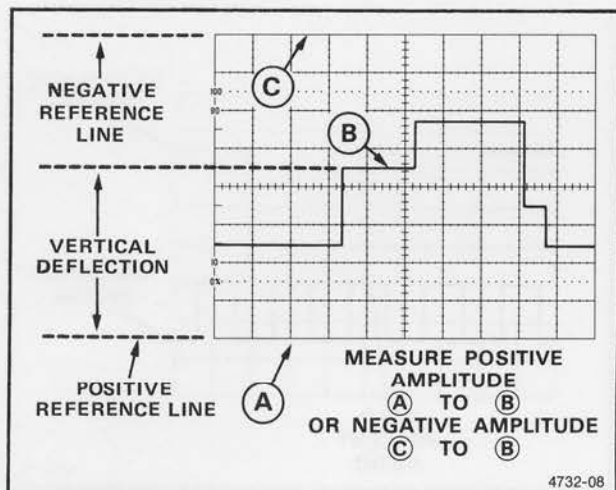

Figure 4-2. Instantaneous voltage measurement.
9. Measure the divisions of vertical deflection between the ground reference line and the point on the waveform at which the level is to be determined (see Figure 4-2).
EXAMPLE: The measured vertical deflection from the reference line is 4.6 divisions (see Figure 4-2), the waveform point is above the reference line, a 10X attenuator probe is being used, and the VOLTS/DIV switch is set to 2 V (at 10X PROBE setting).